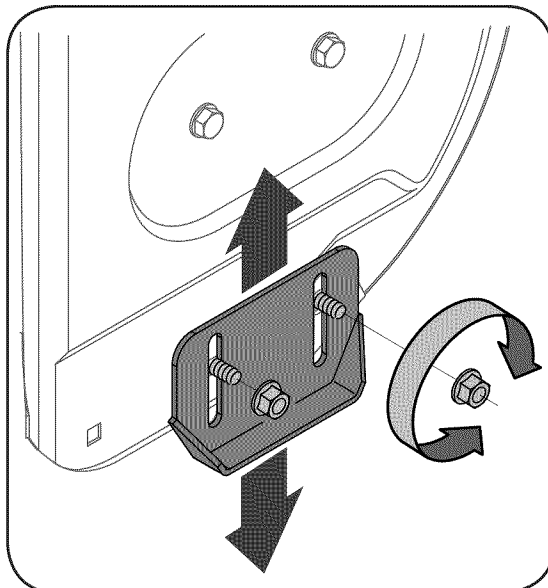

Figure 5
1. Adjust skid shoes by loosening the four lock nuts and carriage bolts and moving skid shoes to desired position. See Figure 5.